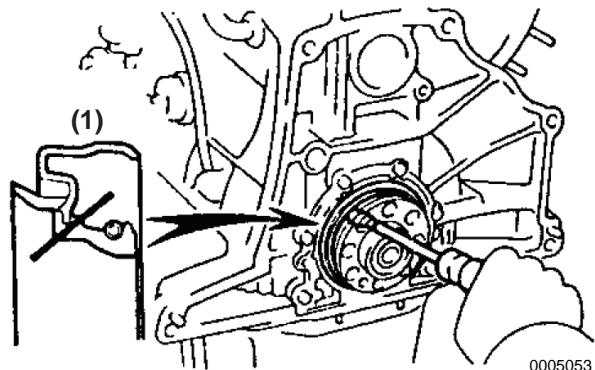

Figure 5-130
1. Cut off the oil seal lip using a knife (**Figure 5-130, (1)**).